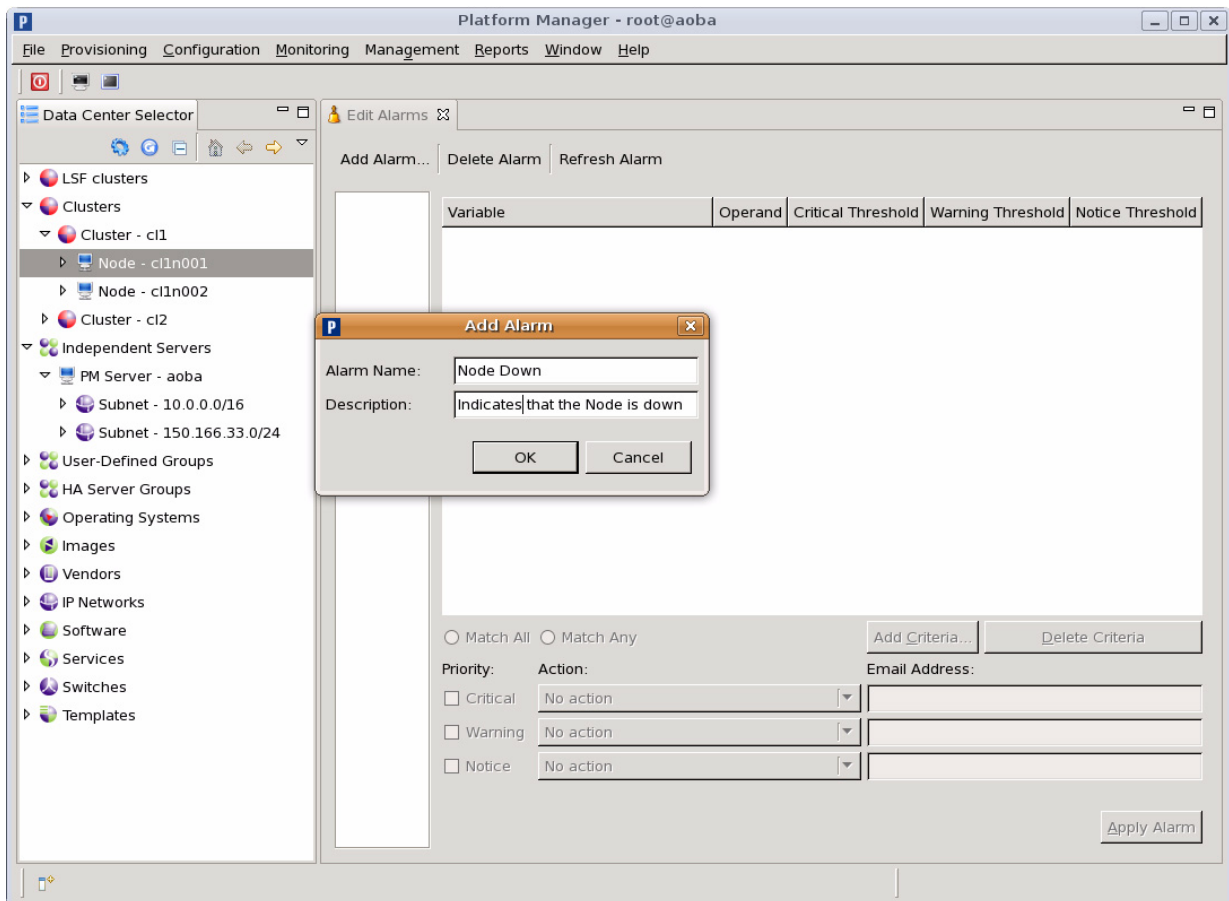

Figure 2-15 Alarm Description Popup Example
4. Then select “Add Alarm” to add the alarm and a pop-up window appears, see Figure 2-15 .